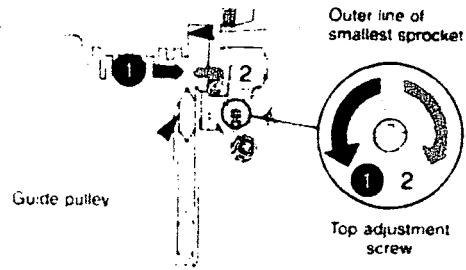

Fig. 7 - Adjust the high limit screw so the guide pulley aligns to the outside edge of the smallest cog.
To adjust the high limit screw, use the appropriate tool, usually a screwdriver or small hex wrench. Turn the screw back and forth while viewing the guide (upper) pulley from the rear. You should see it moving laterally within a small range, underneath the smallest cog. A good starting point for the adjustment is to center the guide pulley directly under the smallest cog (see figure 7).
Step 3 – Adjust the high limit screw so that the guide pulley is centered just to the outside edge of the smallest cog (See figure 7).